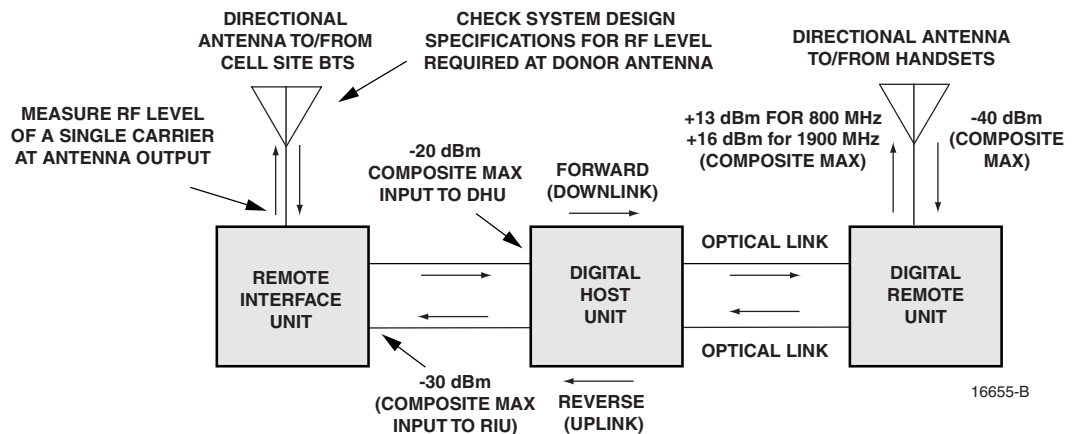

Figure 13. Signal Levels and Test Points
1. Connect a power meter to the antenna cable. The required signal levels and test points are shown in Figure 13.